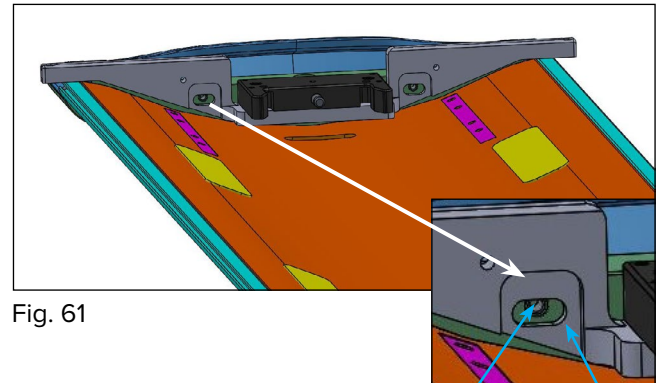

Fig. 61
2. Center the Latch Assembly along the width of the cradle and ensure that the slots on the Latch Assembly lineup with the screw holes on the cradle (Fig. 61).